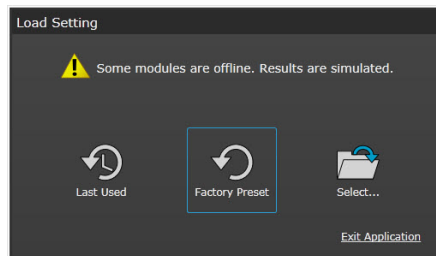

Figure 32 Load Settings screen
- 3 When the **Load Settings** screen appears as shown in Figure 32 on page -81, load the last used, factor preset, or new settings.